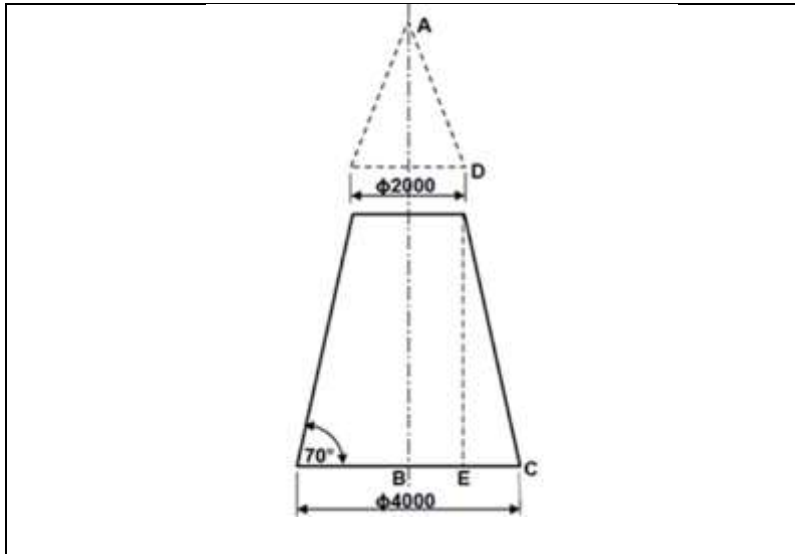

FIGURE 1
6.1 FIGURE 1 below indicates a conical hopper.
Calculate the following regarding the hopper in Figure 1 above: